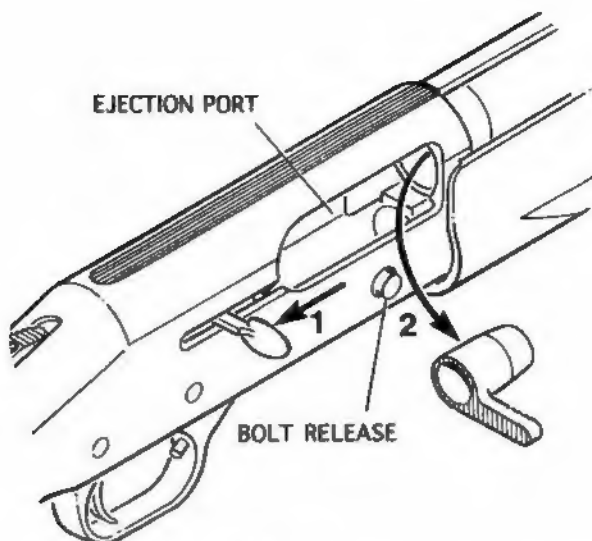

Figure 4
1. With the safety button fully rearward in the "ON" position and the shotgun pointed in a safe direction, hold the shotgun in your left hand by the forearm, and grasp the operating handle with your right hand (Figure 4).
Keep fingers clear of operating handle and ejection port when closing action. (Figure 4)
With safety button fully rearward in the "ON" (SAFE) position, and the shotgun pointed in a safe direction, press bolt release until action releases (Figure 4).
Open the action by pulling the operating handle completely rearward until it locks in the open position. (See **"TO LOCK ACTION OPEN"**, Figure 4)
Keep fingers clear of operating handle and ejection port when closing action (Figure 4).
3. With safety button fully rearward in the "ON" (SAFE) position, and the muzzle pointed in a safe direction, press bolt release until action releases (Figure 4).
3. While holding the elevator down with your thumb, press the bolt release (Figure 4). This will release one shell from the magazine tube under spring pressure.